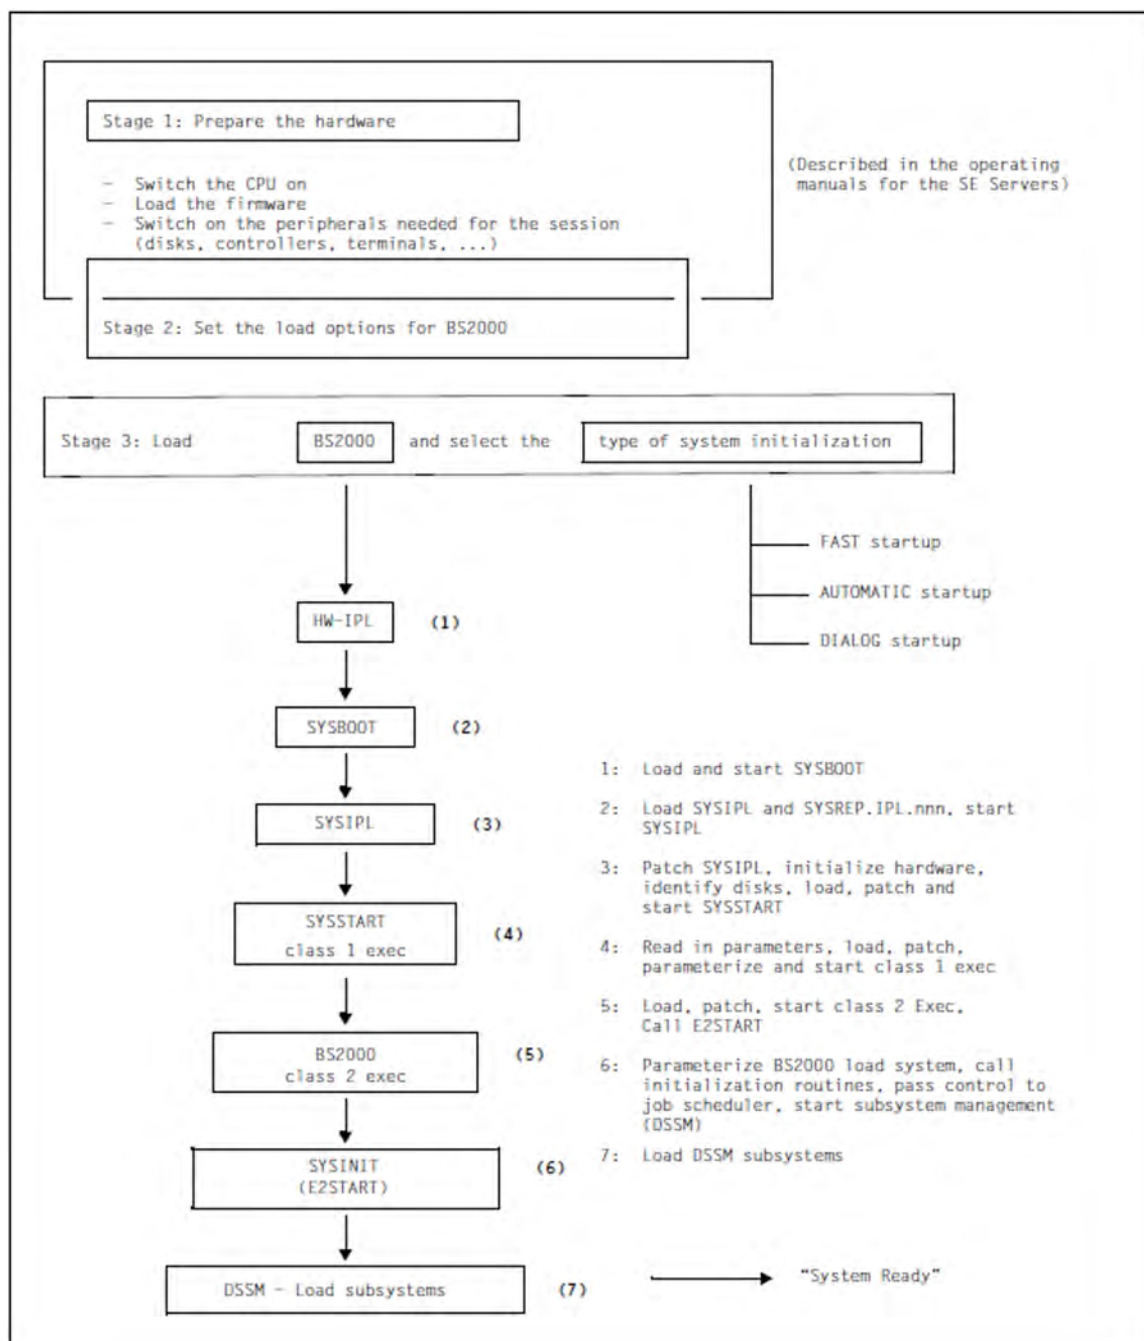

Figure 2: Flow chart of functions for BS2000 system initialization
Internally, system initialization for BS2000 begins with the loading of the initial program loader (SYSBOOT). This is actually performed by the HW-IPL routine (step (1) in figure 2).
SYSBOOT is the first program in system initialization. It performs elementary checks and initiates other load routines (step (2) in figure 2).
The routine loaded and started by SYSBOOT is SYSIPL, which queries the options in DIALOG mode and determines the current disk and CPU configuration (step (3) in figure 2). The time base for the system time is defined. The disk configuration is checked to ensure that it is complete and unique. With DRV disks in the home pubset, the associated disk pairs are established. In addition, this routine loads and corrects SYSSTART or SLED.
SYSSTART (step (4) in figure 2) is a program that prepares and carries out system initialization proper for BS2000. The preparation stage mainly involves reading in the parameters for BS2000, determining the object code corrections for the class 1 Executive and checking the SYSSTART and BS2000 versions for consistency. During execution, the individual BS2000 initialization functions are called via tables. These initialization functions also include the virtual memory management data structures and the initialization of the paging areas used by SYSSTART to prepare the transition to BS2000 virtual addressing mode.
Finally, SYSSTART calls the BS2000 load system (step (5) in figure 2), which consists of the two parts “class 1 Executive” (resident) and “class 2 Executive” (pageable).
The final phase of BS2000 system initialization is started using E2START (step (6) in figure 2). This routine is already executing under BS2000 and first determines the name of the command file (CMDFILE) to be started automatically after “System ready”.